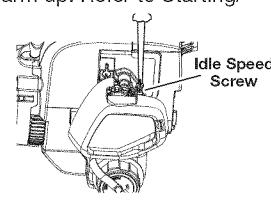

Fig. 23
The idle speed of the engine is adjustable. An idle adjustment screw is between the air filter cover and the engine starter housing (Fig. 23).
- Release the throttle trigger and let the engine idle. If the engine stops, insert a small phillips screwdriver into the idle adjustment screw (Fig. 23). Turn the idle speed screw clockwise 1/8 of a turn at a time (as needed) until the engine idles smoothly.